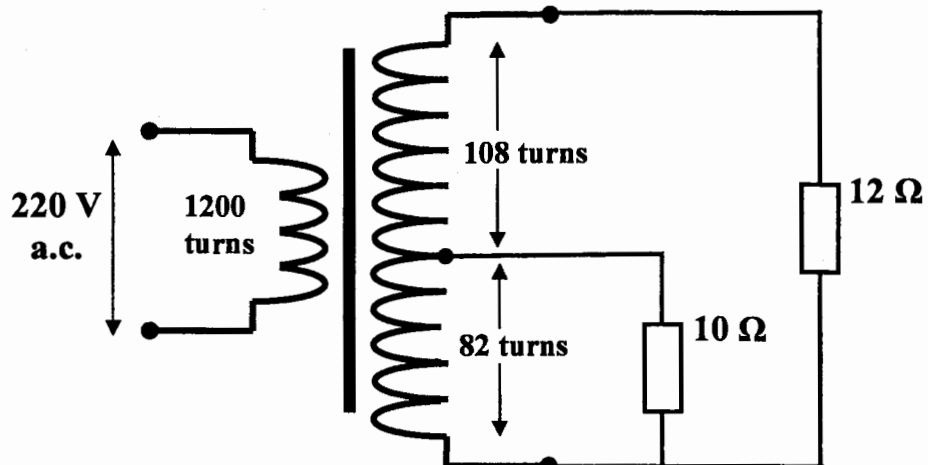

Fig. Q.1c
- (c) For the loaded tapped-secondary transformer with turns for each winding shown in Fig. Q.1c,